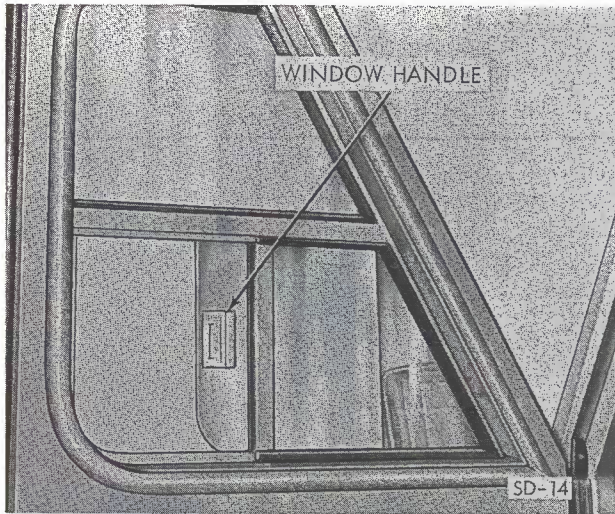

Figure 4-11. Driver's Sliding Window
w. Driver's and Passenger Windows (fig. 4-11). Sliding window panels for ventilation and signaling are contained in the driver's door and passenger window. Pull or push window handle to open or close